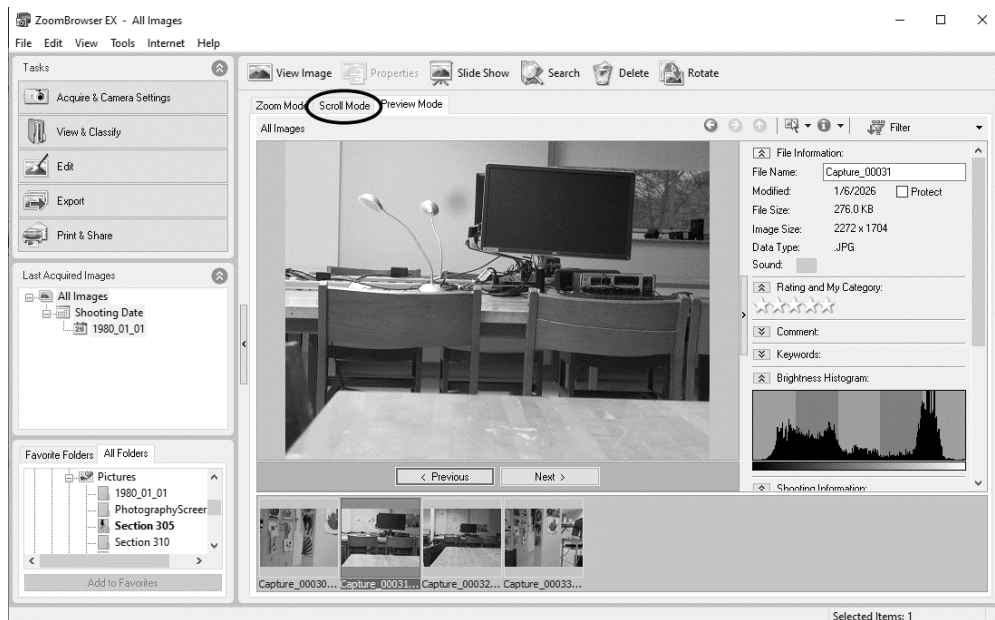

Figure 4: ZoomBrowser EX window
- Click on the “Scroll Mode” tab near the top of the Zoom Browser EX Window (Fig. 4).